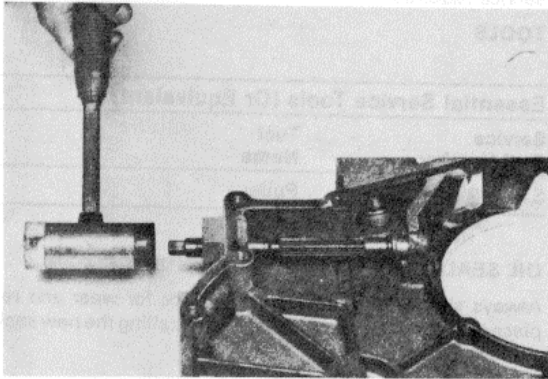

Figure 16K-2. Install the Guide Assembly
1. With the gear cover removed, compress the guide assembly bushing (6) for installation into the front cover.
2. Put the slotted end of the barring device shaft (1) over the roll pin (7) in the guide assembly and tap into position, Figure 16K-2.
3. Remove the barring device shaft (1) and install the O-ring (3), Figure 16K-4, in the proper location on the shaft.
4. Insert the barring shaft (1) into the shaft bore far enough to expose the splined end of the shaft. Install the worm gear (4) and the spring into position on the shaft.